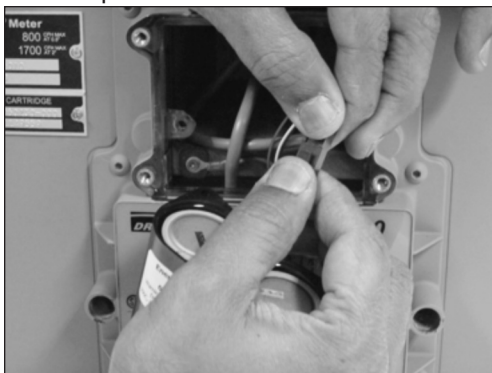

Figure 9.29 Example - Disconnect the wiring
- Disconnect the wiring between the battery back and the main circuit board as shown in Figure 9.29 Example.